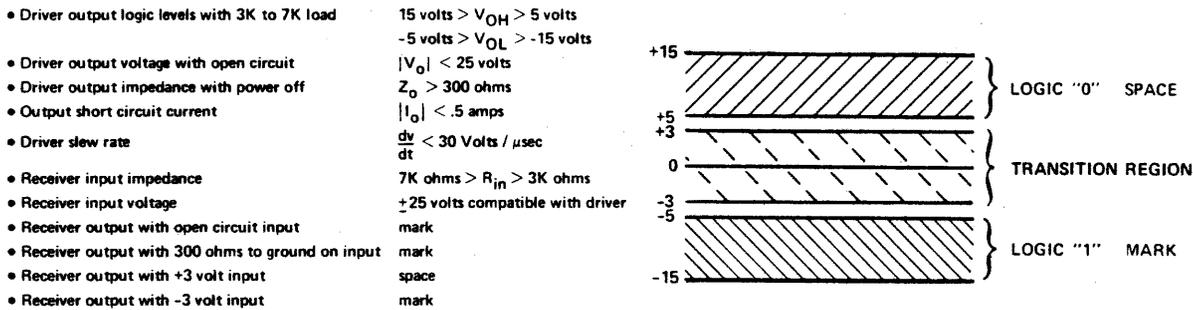

FIGURE 7-2 RS-232-C ELECTRICAL SPECIFICATIONS AND VOLTAGE LEVELS
7.5 This section will define the operation of the RS-232-C interface control lines. A summary of the RS-232-C electrical specifications is given in Figure 7-2.